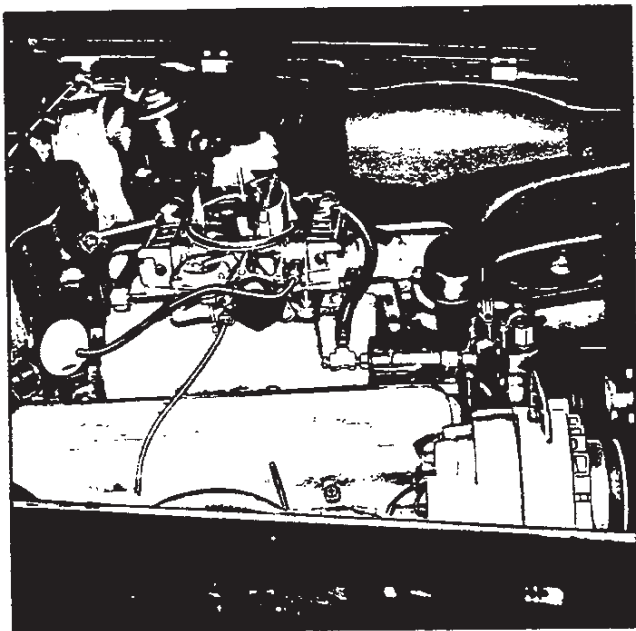

Fig. 1—Corvette High Performance Engine
3. A 365 H.P. engine (Fig. 1) equipped with a Holley 4-Bbl. carburetor, special camshaft and solid valve lifters.